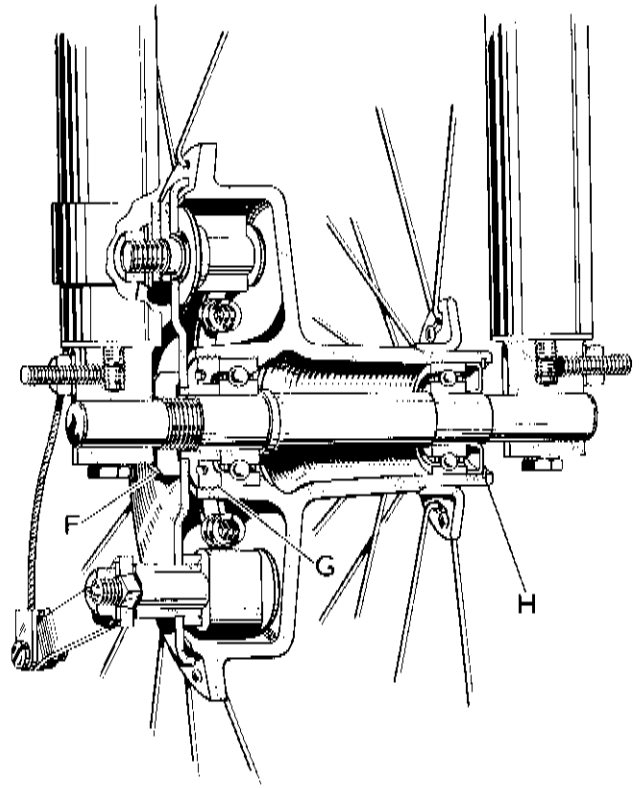

Fig. D30.
Unscrew the large nut (E) Fig. D30 on the spindle. This will be facilitated if the brake is applied by using a short length of tubing, such as a box spanner, over the brake arm.
Make sure that the cover plate nut (l') Fig. D30 is securely tightened, engage the torque arm bolt of the cover plate in the clip on the right-hand fork leg and replace the fork end clips. Before finally tightening the clip bolts pull the wheel towards the right hand fork leg.